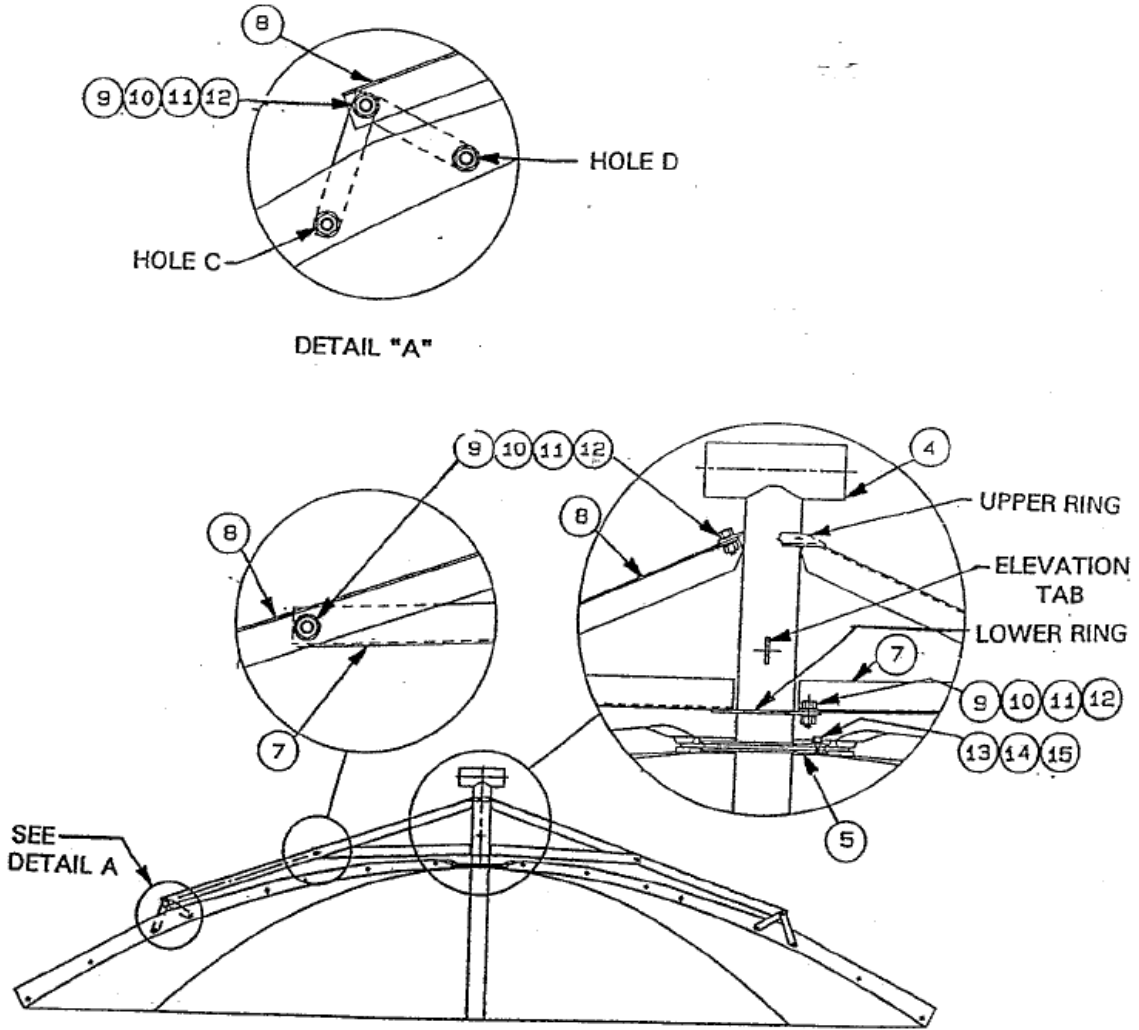

FIGURE 2.3-2
2. Attach the chamfered end of one of the long angle braces (item# 8) to the underside of the upper ring with [1] 1/2-13 x 1.25" bolt, [2] flatwasher, [1] lockwasher, and [1] 1/2-13 hex nut (items # 9,10,11,12) as shown in figure 2.3-2. Position the other end on the right side of mount bracket (item# 6) using the above mentioned hardware. Attach the remaining long braces from each of the mounting brackets to the center hub in the same manner. Do not tighten until instructed. Attach all the short braces (item# 7) between the long braces and the lower ring on the center hub with the same hardware as above.